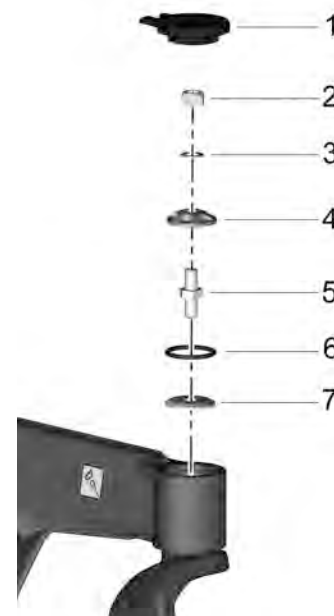

Figure 241. Friction brake.
1. Remove the cover (1) on the link arm. See fig 241.
2. Adjust the friction brakes by tightening or loosening the lock nut (2).
4. Fit the cover (1) on top of the link arm. See fig 241.